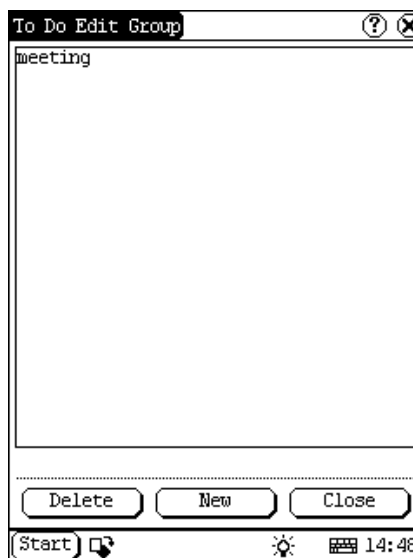

Figure 5-25
- 1) Click the [▼] button to the right of 'Group' in the interface ① so that the type list pops up.
- 2) In the type list, select 'Edit Group' to open the Edit Group interface. See Figure 5-25.